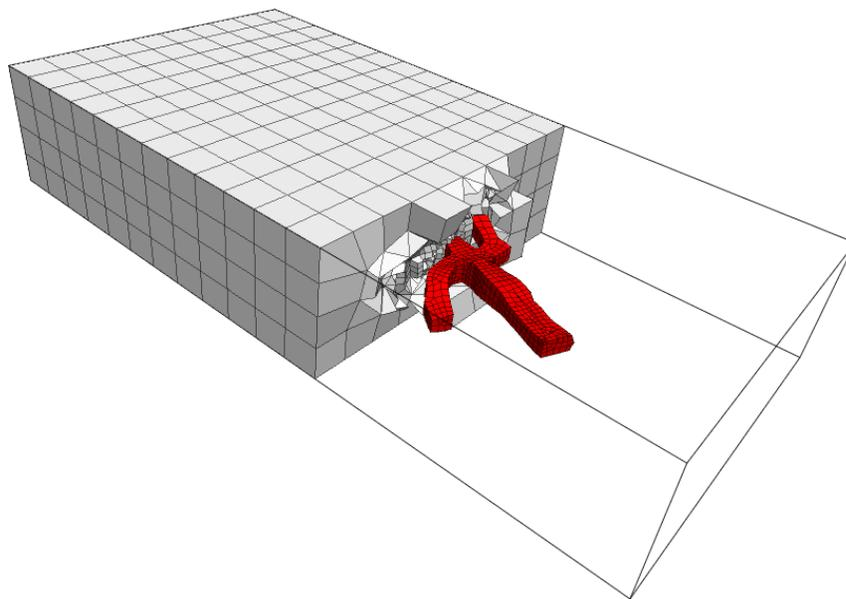

Figure 110: *Griddle* generated hex-dominant volume grid read into *FLAC3D*.
8. Type **_SelMesh** to select all the meshes. Type **_GVol** and use **Mode:ConHexDom** with *FLAC3D* output to generate a volume mesh. The resulting volume grid *GVol.f3grid* can be read into *FLAC3D* and used for numerical simulations (Figure 110).